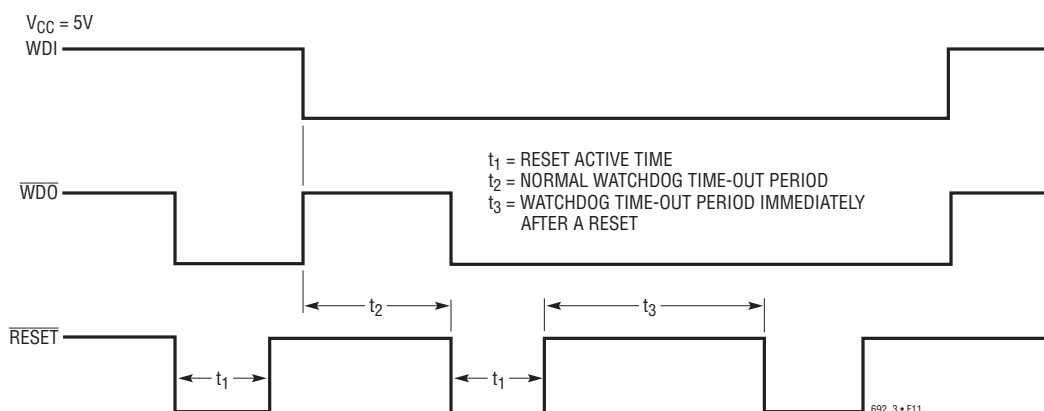

Figure 11. Watchdog Timeout Period and Reset Active Time
**WDI:** Watchdog Input. WDI is a three level input. Driving WDI either high or low for longer than the watchdog timeout period, forces both  $\overline{\text{RESET}}$  and  $\overline{\text{WDO}}$  low. Floating WDI disables the watchdog timer. The timer resets itself with each transition of the watchdog input (see Figure 11).
**$\overline{\text{WDO}}$ :** Watchdog Logic Output. When the watchdog input remains either high or low for longer than the watchdog timeout period,  $\overline{\text{WDO}}$  goes low.  $\overline{\text{WDO}}$  is set high whenever there is a transition on the WDI pin, or  $\overline{\text{LOW LINE}}$  goes low. The watchdog timer can be disabled by floating WDI (see Figure 11).
The LTC692/LTC693 provide a watchdog timer function to monitor the activity of the microprocessor. If the microprocessor does not toggle the watchdog input (WDI) within a selected timeout period,  $\overline{\text{RESET}}$  is forced to active low for a minimum of 140ms. The reset active time is adjustable on the LTC693. Since many systems cannot service the watchdog timer immediately after a reset, the LTC693 has longer timeout period (1.0 second minimum) right after a reset is issued. The normal timeout period (70ms minimum) becomes effective following the first transition of WDI after  $\overline{\text{RESET}}$  is inactive. The watchdog timeout period is fixed at a 1.0 second minimum on the LTC692. Figure 11 shows the timing diagram of watchdog timeout period and reset active time. The watchdog timeout period is restarted as soon as  $\overline{\text{RESET}}$  is inactive. When either a high-to-low or low-to-high transition occurs at the WDI pin prior to timeout, the watchdog timer is reset and begins to timeout again. To ensure the watchdog timer does not timeout, either a high-to-low or low-to-high transition on the WDI pin must occur at or less than the minimum timeout period. If the input to the WDI pin remains either high or low, reset pulses will be issued every 1.6 seconds typically. The watchdog timer can be deactivated by floating the WDI pin. The timer is also disabled when  $V_{\text{CC}}$  falls below the reset voltage threshold or  $V_{\text{BATT}}$ .